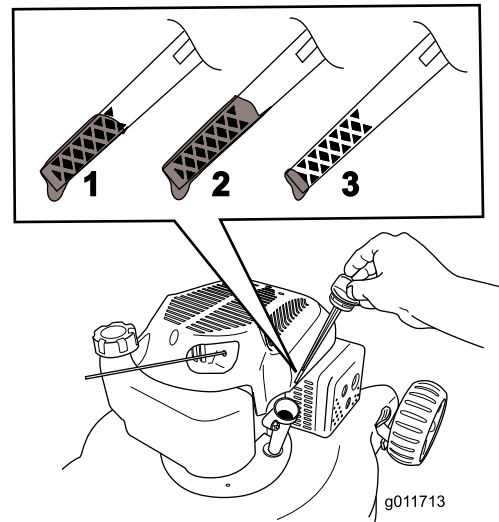

**Figure 19**
5. Tip the mower onto its side, with the dipstick down, to drain the used oil out through the oil fill tube (Figure 19).